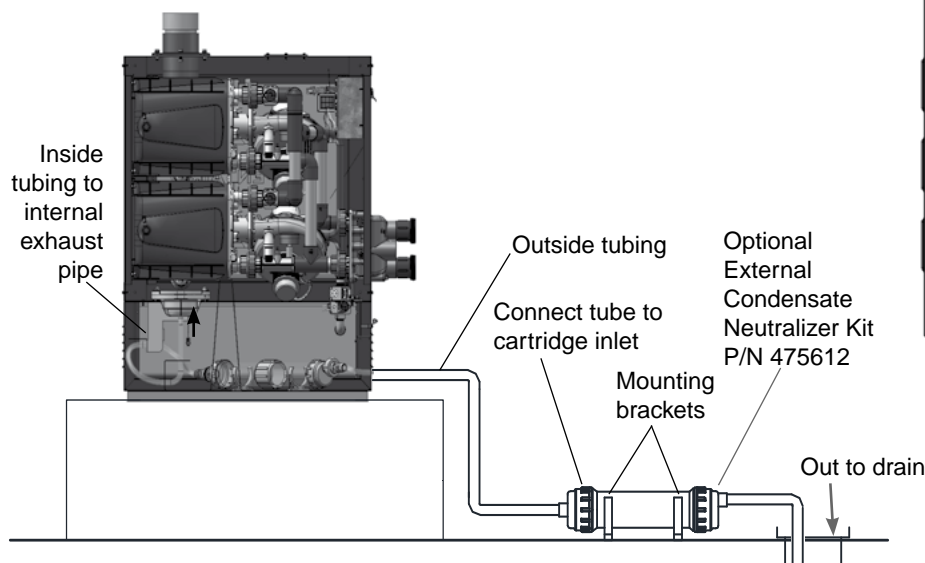
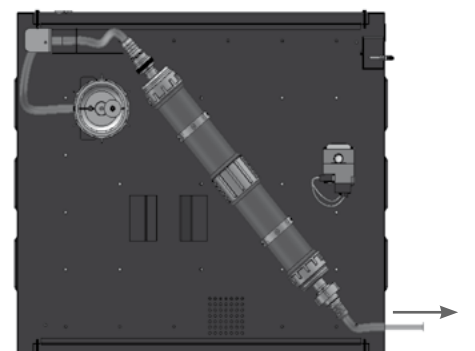

Figure 31. External Neutralizer Cartridge for indoor heater Installation
Figure 32. Internal Neutralizer Cartridge installed on base of heater for outdoor heater Installation
3. **Indoor Heater Installation (Figure 31):** Mount the neutralizer cartridge on the floor near the side of the heater. **Outdoor Heater Installation (Figure 32):** Using the provided brackets, secure the neutralizer cartridge onto the heater base.
TIME CLOCK/FIREMAN'S SWITCH (See Figure 31 above):